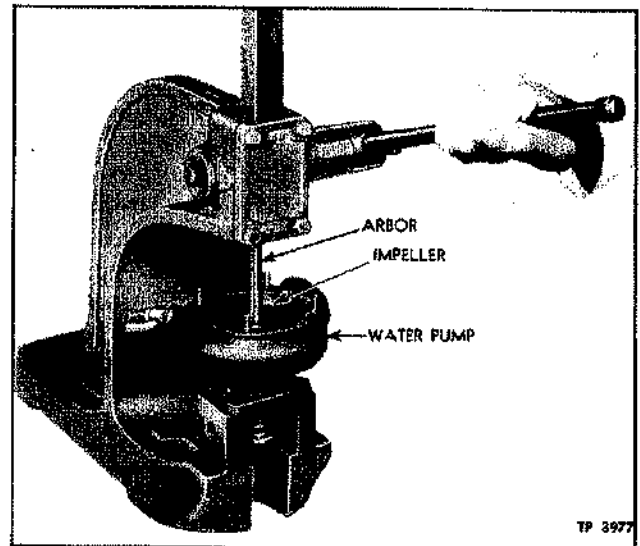

Figure 4—Pressing Water Pump Impeller from Drive Shaft
3. Support the water pump in an arbor press flange down as shown in figure 4 and press the shaft through the impeller. Shaft and bearing assembly will also be removed from the pump body during this operation.